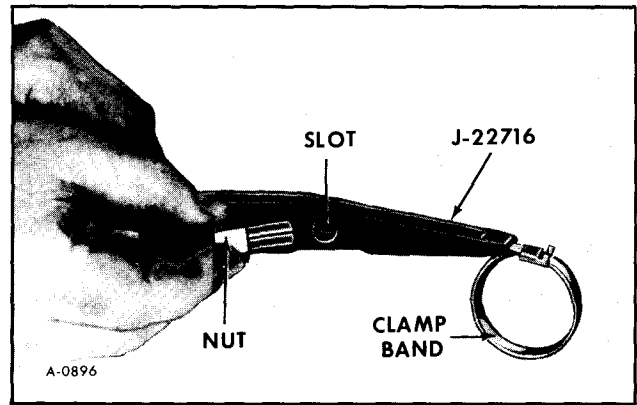

Figure 15—Assembly of J-22716 to Band
a. Pull clamp to desired size and insert band into Tool J-22716. Then insert nut into tool with band in slot of nut as shown in Figure 15.